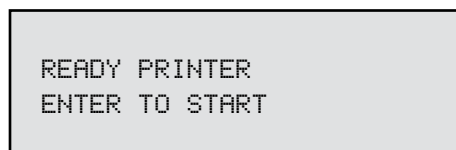

Figure K-3
- ✓ Scroll to YES and press the ENTER/AUTORANGE key. Figure K-3 appears.